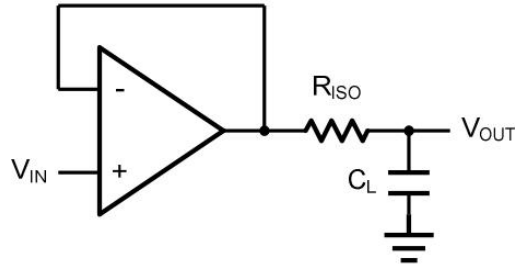
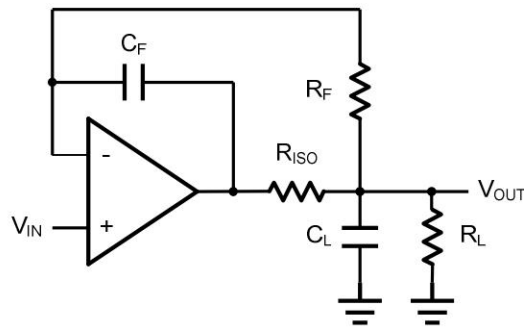

Figure 2. Indirectly Driving a Capacitive Load Using Isolation Resistor
Figure 3. Indirectly Driving a Capacitive Load with DC Accuracy
The HGV655X family is optimized for bandwidth and speed, not for driving capacitive loads. Output capacitance will create a pole in the amplifier's feedback path, leading to excessive peaking and potential oscillation. If dealing with load capacitance is a requirement of the application, the two strategies to consider are (1) using a small resistor in series with the amplifier's output and the load capacitance and (2) reducing the bandwidth of the amplifier's feedback loop by increasing the overall noise gain. Figure 2. shows a unity gain follower using the series resistor strategy. The resistor isolates the output from the capacitance and, more importantly, creates a zero in the feedback path that compensates for the pole created by the output capacitance.
The circuit in Figure 3 is an improvement to the one in Figure 2. R_F provides the DC accuracy by feed-forward the V_{IN} to R_L . C_F and R_{ISO} serve to counteract the loss of phase margin by feeding the high frequency component of the output signal back to the amplifier's inverting input, thereby preserving the phase margin in the overall feedback loop. Capacitive drive can be increased by increasing the value of C_F . This in turn will slow down the pulse response.